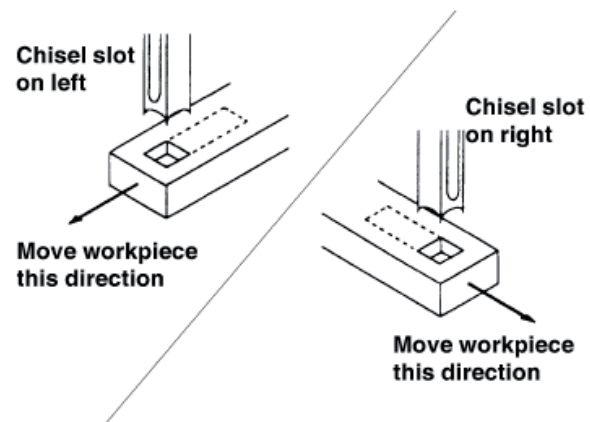

FIGURE 6
5. After the first cut, the work piece is moved along with the right hand wheel for each successive cut. The direction of movement must allow the chips to clear freely. Move the work piece so that the slot in the chisel is releasing chips into the *already cut* part of the work piece. See Figure 6.